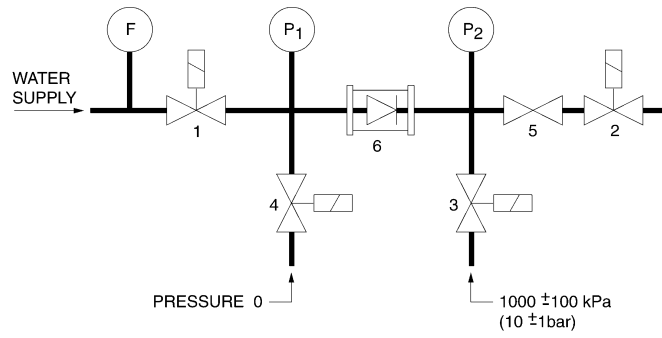

Figure 08
A supply of water to achieve the test flow rates at the required temperature and pressure. (Reference Figure 08).
- (1) Install the check valve in the test rig, using appropriate adaptors, if necessary. (Reference Figure 08).
- (2) With valves '1' and '2' open and valves '3' and '4' closed, adjust valve '5' to give a flow rate through the check valve equal to a flow rate as given in Table 08 (with a tolerance of $\pm 5\%$).